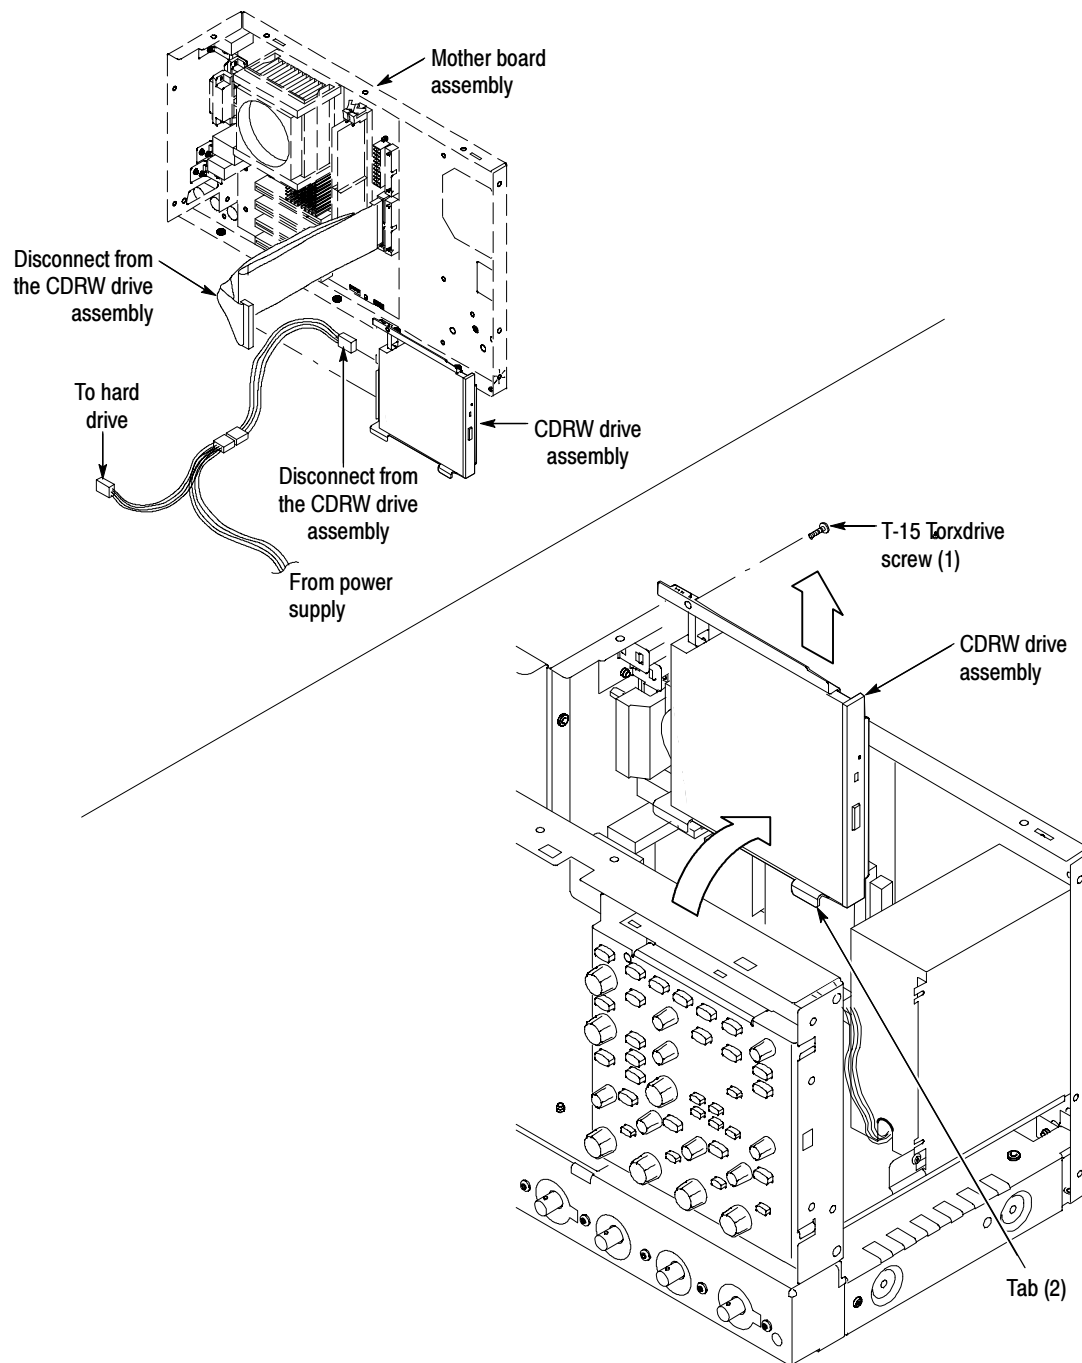

Figure 9: CDRW drive assembly removal
2. Pull the CDRW Disk Drive assembly away from the chassis far enough to disconnect the cables. See Figure 9.